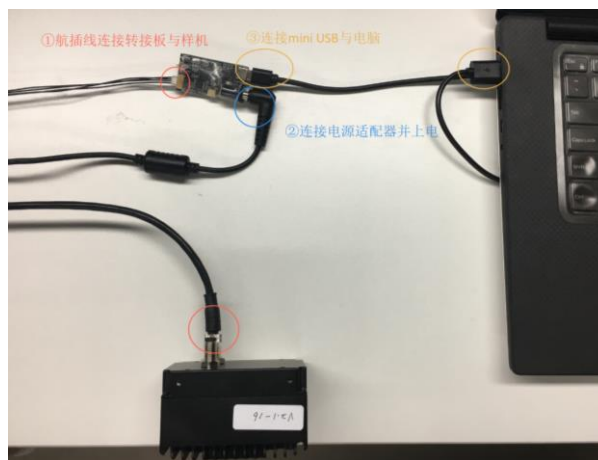

Fig. 3 Illustration for Connection of Components
- 1) Connect all the accessories in accordance with Fig. 3 Illustration for Connection of Components.